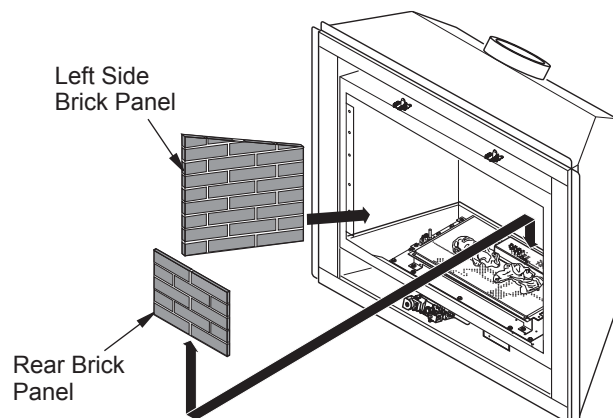

Figure 39 - Installing Rear Brick Panel
6. Install rear brick panel first. Rest bottom edge of panel on back edge of burner assembly (see Figure 39).
7. Install left side brick panel by sliding it between the burner assembly and the side of the firebox (see Figure 39).